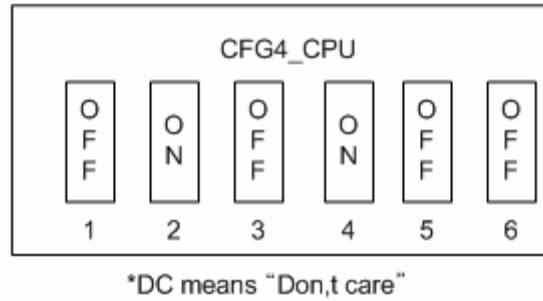

Figure 6-3 Jumper Setting for DDR Memory
7. On the **Configuration** menu, click **Options** to set the UART/USB options. The following window appears on your screen. Select Baud Rate and COM Port as shown in figure 6-3, enter the download address as **0x30200000** and then click **OK** button.
- On the **Serial Port** menu, click **Connect**. Switch **ON** the reference board. The DNW window appears as shown in figure 6-3.